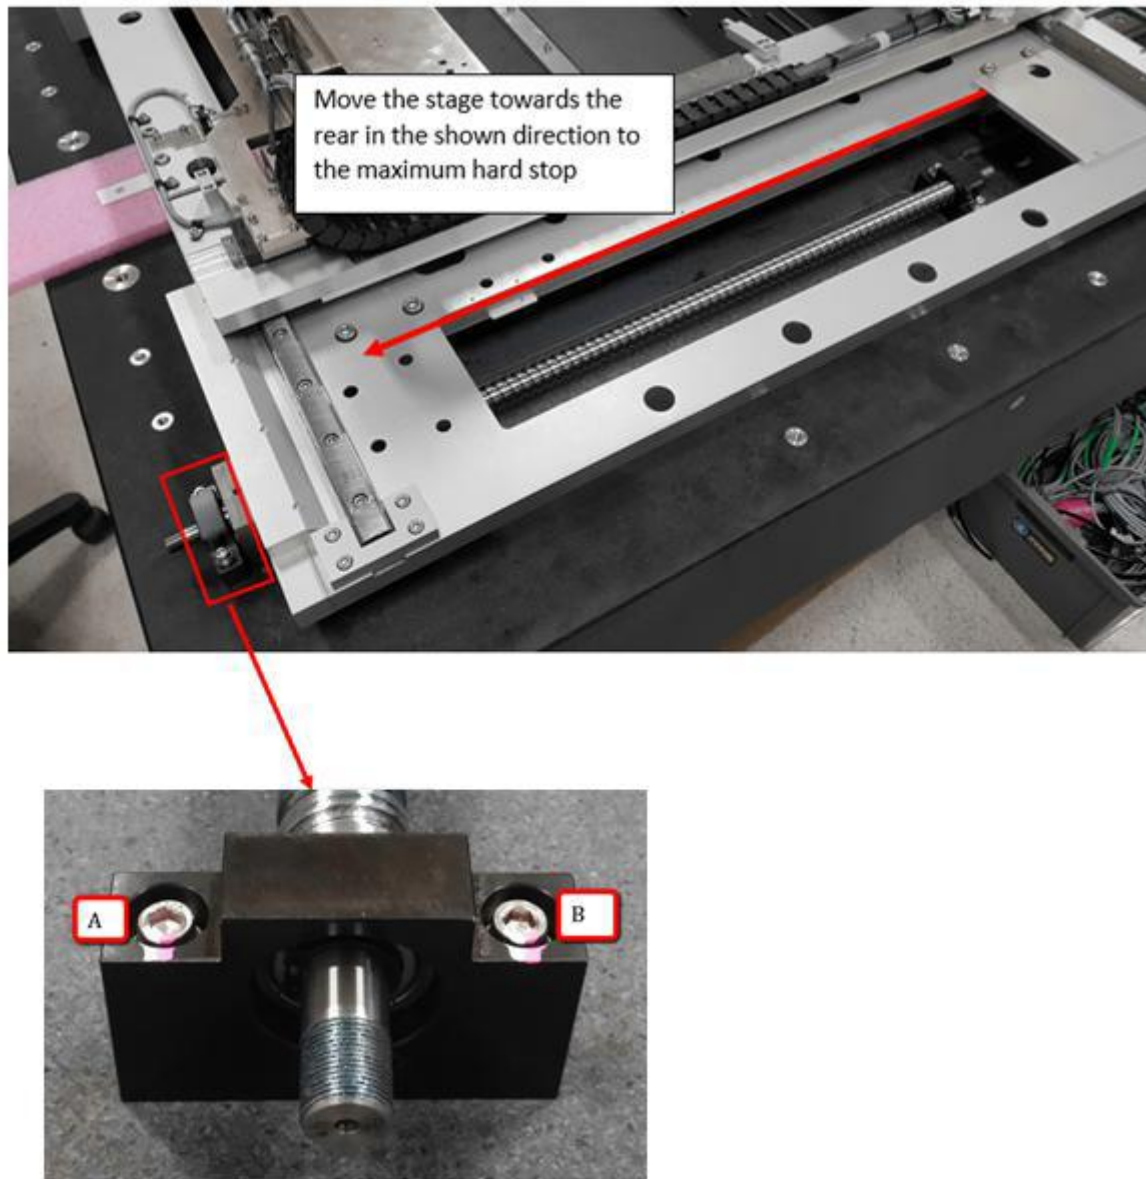

Figure 15 End Support Bearing
17. Move the Y-Axis stage towards the maximum hard stop as shown in the Figure 15 and tighten screw “A” & “B”.